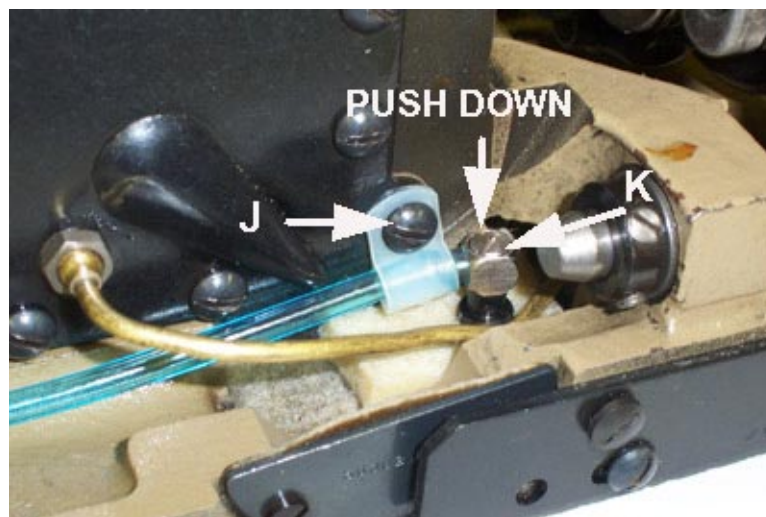

Fig 14
10) Push the oil fitting **K** (fig 14) so that the bottom of the fitting fits in the hole in the felt and against the felt of the machine and then tighten screw **J** securely.